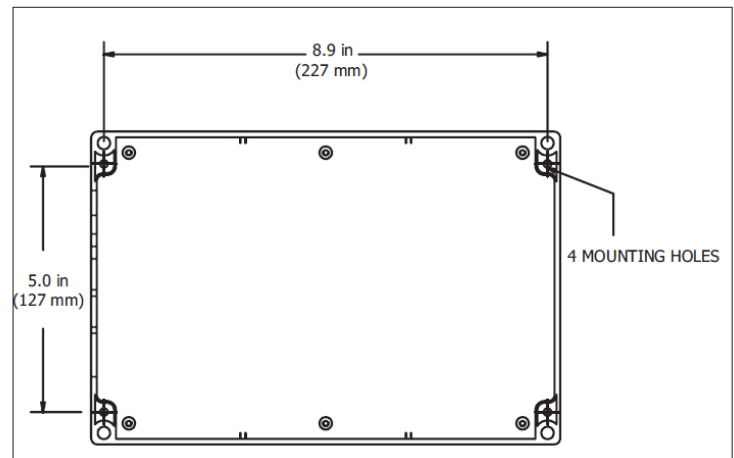

FIGURE 46
2. The ADC100 control may be mounted directly to a wall. To mount, remove the cover and locate the (4) mounting holes. Using the hole-pattern shown in **Figure 46**, mount the control using #6 screws.